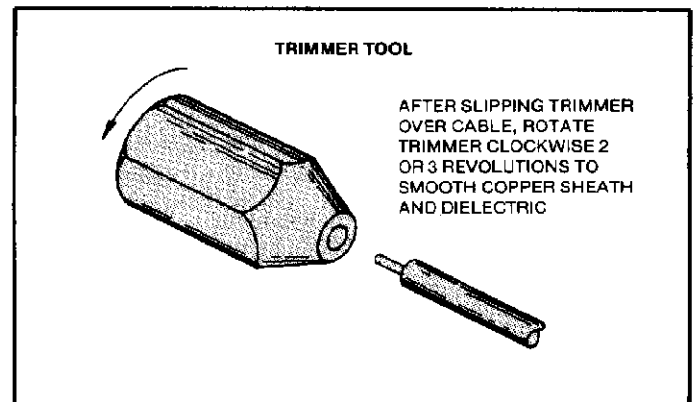

Figure 3
- Slip tool over end of cable. See Figure 3.